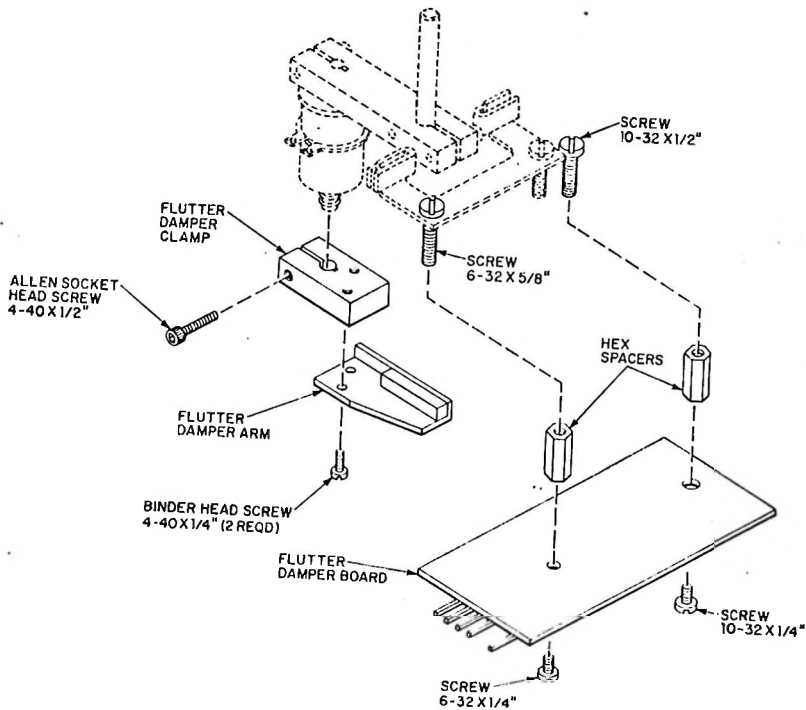

Figure 2
- c. Mount the circuit board on the spacers as shown in figure 2 using the two screws supplied.